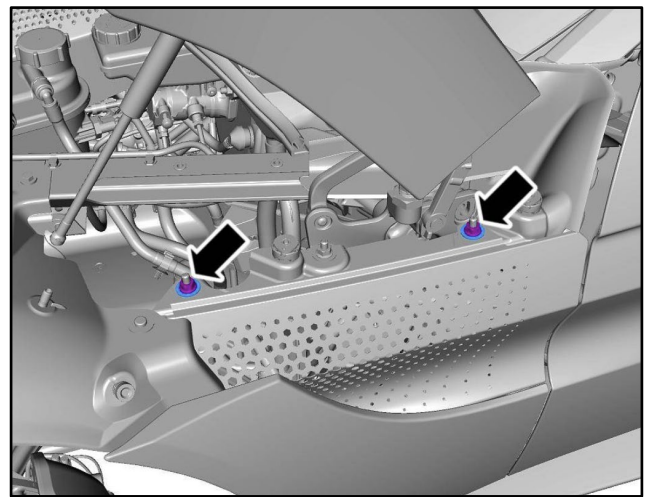

Figure 7
- 7. Loosen the two nuts that attach the side gill panel to the front wing (refer to Figure 7).